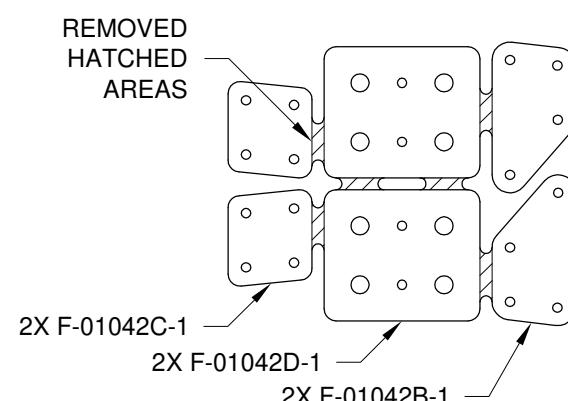

FIGURE 2: BREAK APART CLIPS & SPACERS
Step 2: Break apart the F-01042BCD-1 Clips and Spacers into individual F-01042B-1 Clips, F-01042C-1 Clips, and F-01042D-1 Spacers as shown in Figure 2.